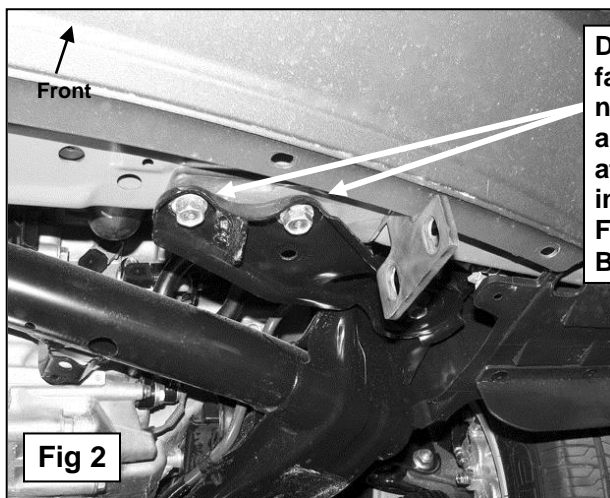

Fig 2
- Starting at the driver side, remove the (2) factory hex bolts securing the frame support to the crossmember, **(Figure 1A & 1B)**. **NOTE:** Only install one Frame Mounting Bracket at a time and only remove the (2) factory hex bolts required to install the Frame Mounting Bracket. To provide extra clearance under the frame support, loosen the factory hex bolt in the subframe mount 1-2 full turns but **do not remove it** from the mount, **(Figures 1A & 1B)**. Select the driver side Frame Mounting Bracket and insert it under the frame support. Line up the two mounting holes in the Frame Mounting Bracket with the frame support and reinstall the factory mounting bolts, **(Figure 2)**. **IMPORTANT:** In some cases, due to very tight tolerances on the factory frame support, it may be necessary to carefully file the holes in the factory frame support for a little added clearance **only** if you find it difficult to get the factory hex bolt to thread into the crossmember. **DO NOT DAMAGE THE FINE THREADS ON THE FACTORY HEX BOLTS OR THE CROSSMEMBER!** Snug but do not tighten hardware at this time.